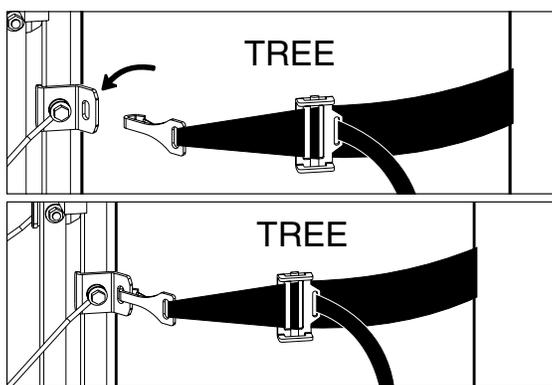

Figure 5
b. Take buckle and wrap around tree. Be sure the strap is even and at the same level all the way around the tree. Also, be sure there are no twists in the strap. Connect hook to opposite side of stand by inserting thru hole (slot) provided. **SEE FIGURE 5.**
c. Pull on excess end of strap firmly - snugging up stand to tree. **SEE FIGURES 5 & 6.**
**DO NOT TWIST STRAP WHEN ATTACHING. SEE FIGURE 5 FOR CORRECT ATTACHMENT.**